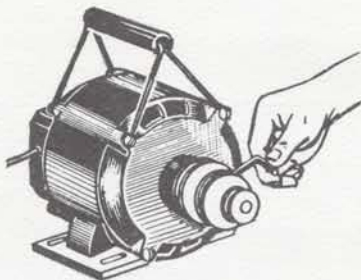

Figure 5
5. Fasten the step pulley to the motor shaft (Figure 5).